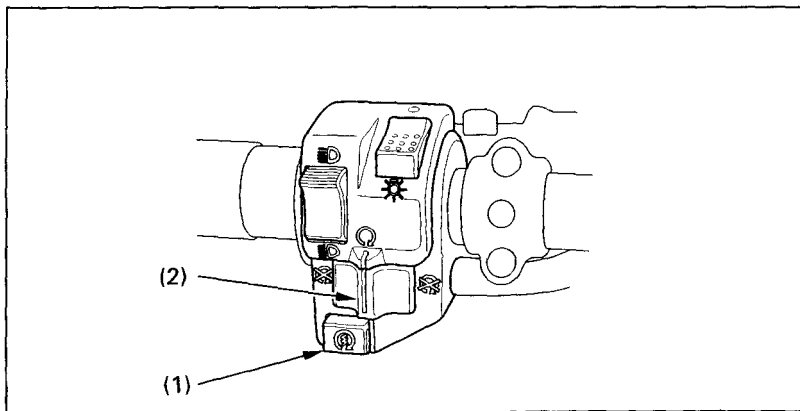

Fig. 2-7
The starter button (Fig. 2-7) is below the engine stop switch. To start the engine, press the starter button (1), with the transmission in neutral, the ignition switch I (ON) and the engine stop switch (2) at O (RUN).